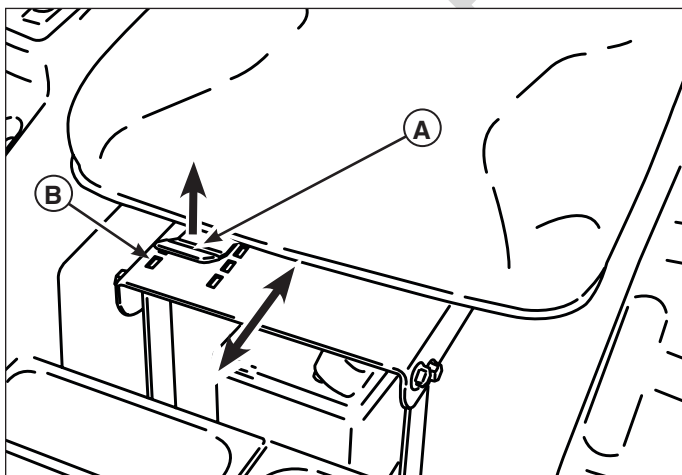

Figure 14. Seat Adjustment
Lift the seat adjustment lever (A, Figure 14). Slide the seat forward or backward to the desired position, then lower the seat adjustment lever. Make sure the lever locks into the locking slots (B) in the seat base.